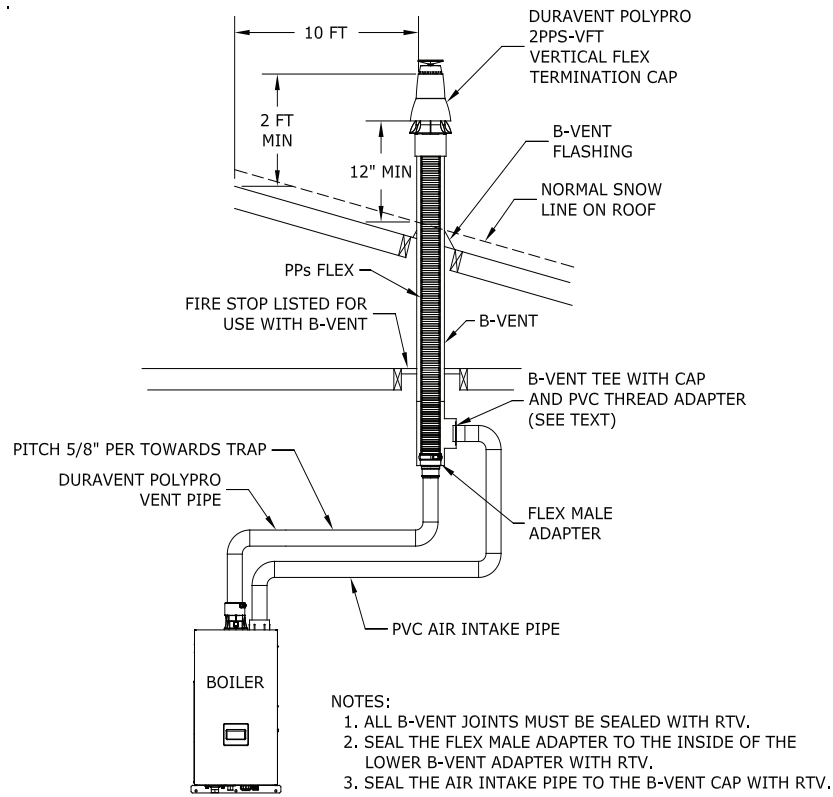

Figure 7.19: Duravent PolyPro B-Vent Air Chase System (Vent Options #18 & 19)
3. Requirements for B-Vent Air Chase Options – Observe the following additional requirements when using an abandoned B-vent chimney as an air chase as described in Options #18-21. Also refer to Figures 7.19 & 7.20.
Example: A 100MBH model is to be installed as using Vent Option 18 as shown in Figure 7.19. The following components are used: